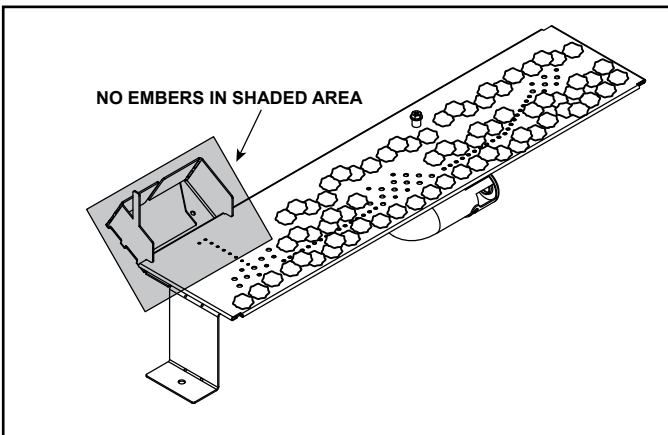

Figure 11.7 Placement of Embers
- Embers **CANNOT** be placed in pilot bracket area. See Figure 11.7. Care should be taken not to cover the lighting trail of ports (from back to front).